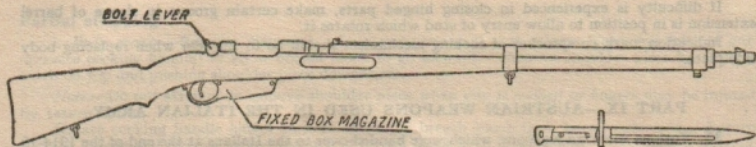

FIG. 21.—8 MM. RIFLE, MOD. 95—MANNLICHER
34. 8 mm. Rifle, Mod. 95—Mannlicher. (*See Fig. 21*)